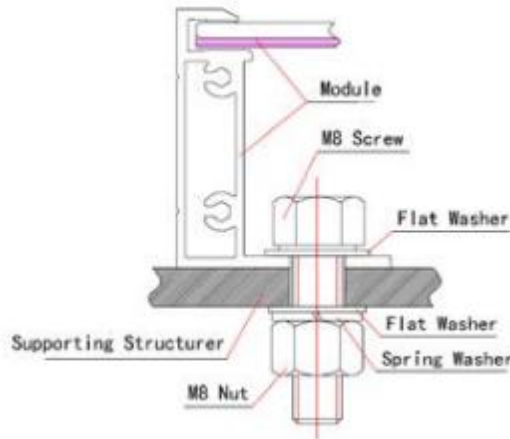

FIG5 Screw fitting method
- ▶ The module frame must be attached to the mounting system using M8 stainless steel hardware together with spring washers and flat washers in four places symmetrical on the module. As shown in Figure 5